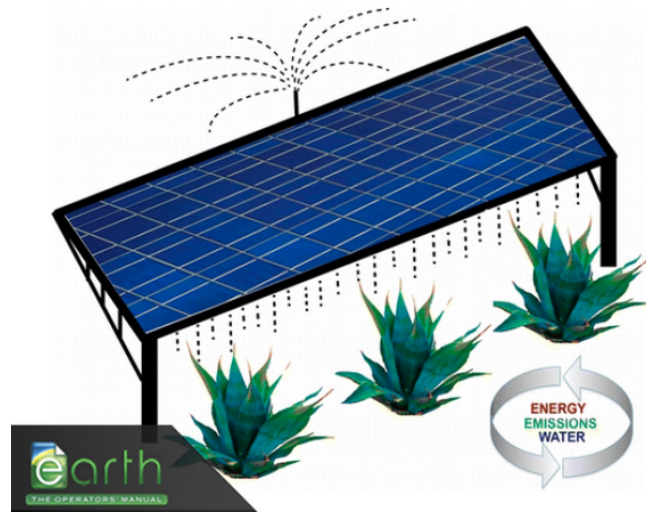

Figure 1: Solar panels above agave.
Agrivoltaics is the co-location of an ‘understory’ of agriculture below an ‘overstory’ of renewable energy production in the form of photovoltaics (converting light into electricity using semiconducting materials). Agrivoltaics (AV) can help us maximize food *and* energy production and transform how we grow agriculture in the drylands of the world. AV works by placing elevated solar panels over agricultural plants (Fig. 1).